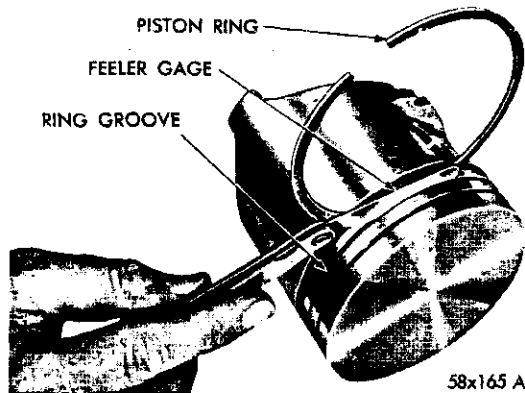

Fig. 44—Measuring the Piston Ring Clearance
(2) Insert the feeler stock in the gap. The ring gap should be between .013 to .032 inch for the compression rings and .015 to .062 inch for the oil ring steel rails in standard size bores. Maximum gap on .005 inch O/S bores should be .040 inch for compression rings and .070 inch for the oil ring steel rails.
(3) Measure the side clearance between the piston ring and the ring groove. (Fig. 44) The clearance should be .0015 to .003 inches for the top compression ring and the intermediate ring, and .009 inch for the oil control ring, for new service rings.
(4) Install the oil ring in the lower ring groove using the instructions in the ring package.
(5) Install the compression rings in the middle and top grooves, so that the side marked "TOP" is up.
(6) Use ring installer Tool C-3628 for the 361 cubic inch engine, Tool C-3673 for the 383 cubic inch engine, and Tool C-3671 for the 413 cubic inch engines.